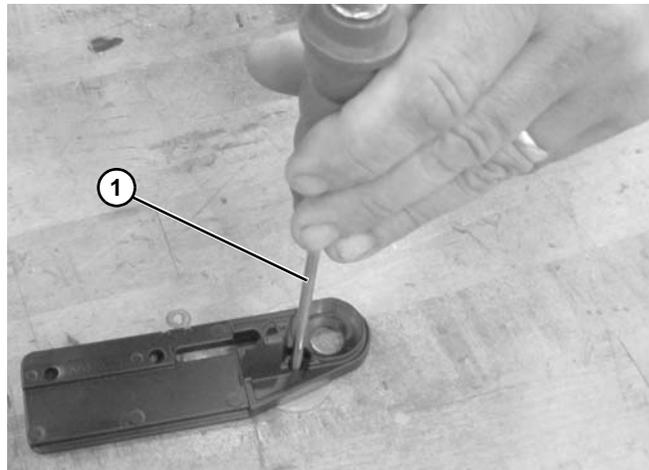
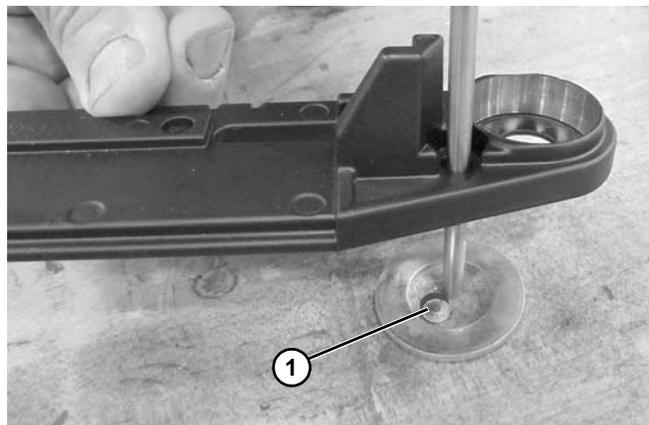

Figure 142
Figure 143
4. Repeat the same operation to knockout (**Figure 143, item 1**) for alignment screw hole using 1/8" - 3/16" punch (**Figure 142, item 1**) or M5 - M6 bolt.